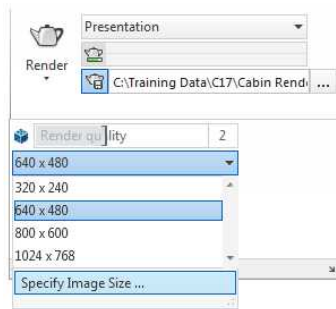

FIGURE 17.37: Set the output size.
8. Expand the Render panel, expand the Render Output Size drop-down list, and then choose Specify Image Size (see Figure 17.37) to open the Output Size dialog box.